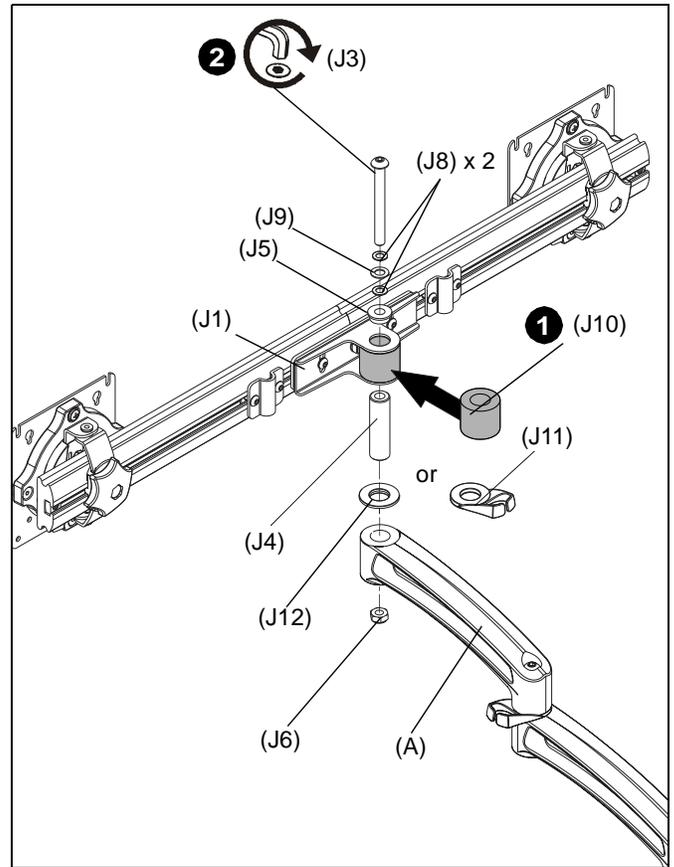

Figure 10
1. Slide rotational spacer (J10) into opening on array attachment bracket. (See Figure 10)
2. Use 5/16-18 x 3" button head cap screw (J3), two thin steel washers (J8), plastic spacer (J9), pocket washer (J5), pivot pin (J4), pivot point spacer (J12) and 5/16-18 lock nut (J6) to secure array (J1) to K2 arm (A). (See Figure 10)
**NOTE:** Cable clip (J11) can be used in place of pivot point spacer (J12) if additional cable management is desired. (See Figure 10)